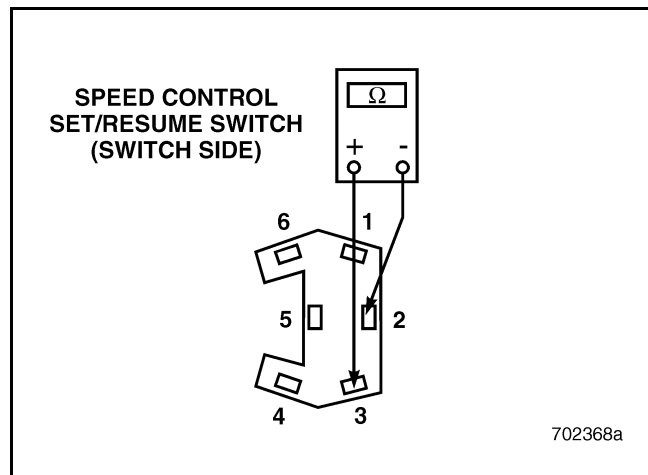

Figure 707
3. With the Speed Control Resume/Accel Switch OFF, check for continuity between pins 2 and 3 of the Speed Control Resume/Accel Switch (see Figure 707).